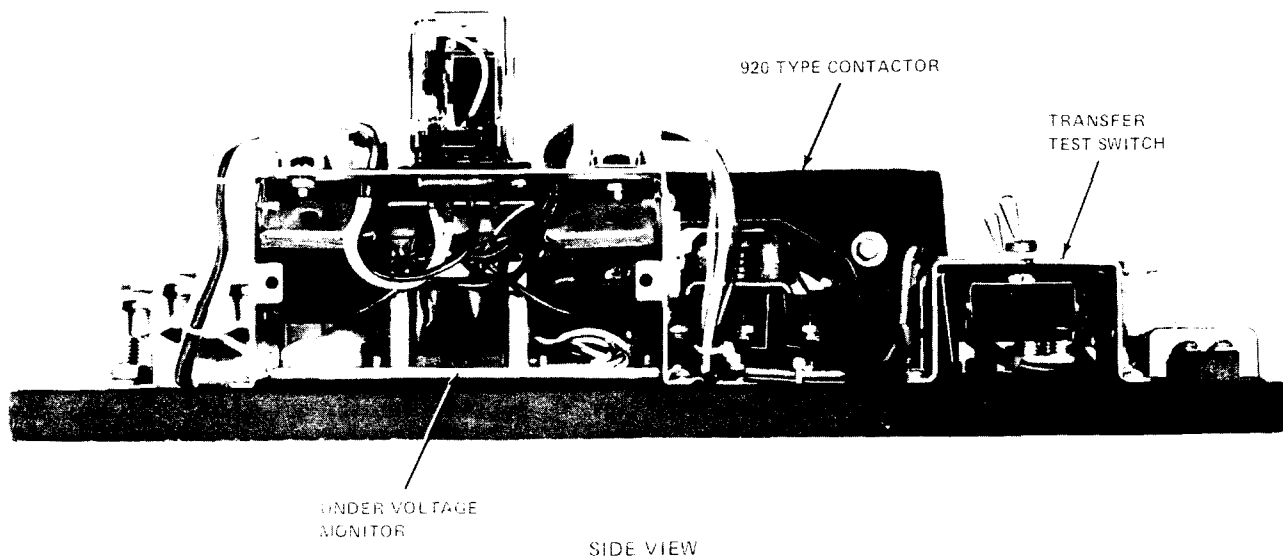

Fig. 6—Side View of the KS-5189-03 (New Version)
(1) The movable and fixed contacts may be readily replaced after taking out the associated screws. In replacing, be certain to put back the four bushings and insulating shims on the crossbar.
(2) Line up the contacts by adjusting the movable contacts on the crossbar with the screws loose. Tighten the screws and close the contacts by hand. Note that the contacts close in the following sequence: (1) carbon contacts, (2) auxiliary metal contact, and (3) brush contact. They should open in the reverse order.
4.06 ♦The Undervoltage Monitor: The new emergency lighting relay switch KS-5189-03 has been designed with an undervoltage monitor. (See Fig. 6.) When replacing the voltage monitor, replace it with either Catalog 214A293 for 3-phase current or Catalog 214A304 for single-phase current, whichever matches the contactor on that unit. The undervoltage monitor should be replaced when there are problems.